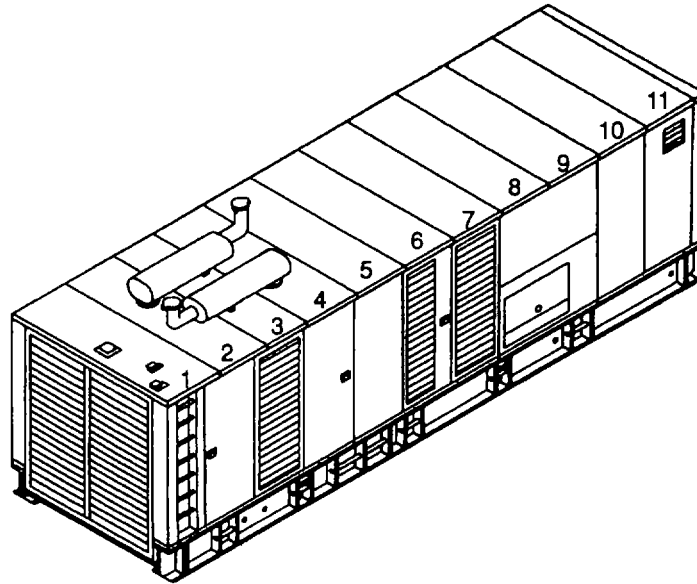

Figure 2-2. Removal of Roof Panels
- (19) Remove roofing panels 1 through 4 (see Figure 2-2) above the engine in accordance with paragraph 4-13 of the Operator and Organizational Maintenance Manual and Figure 4-12.
- (20) Remove the air cleaner assemblies in accordance with paragraph 4-74 of the Operator and Organizational Maintenance Manual.
- (2) Remove the ac and dc conduit above the generator in accordance with paragraph 4-35 of the Operator and Organizational Maintenance Manual. Do not remove ac/dc lights.
- (3) Remove roof panels 5 and 6 (see Figure 2-2) above the generator in accordance with paragraph 4-13 of the Operator and Organizational Maintenance Manual.